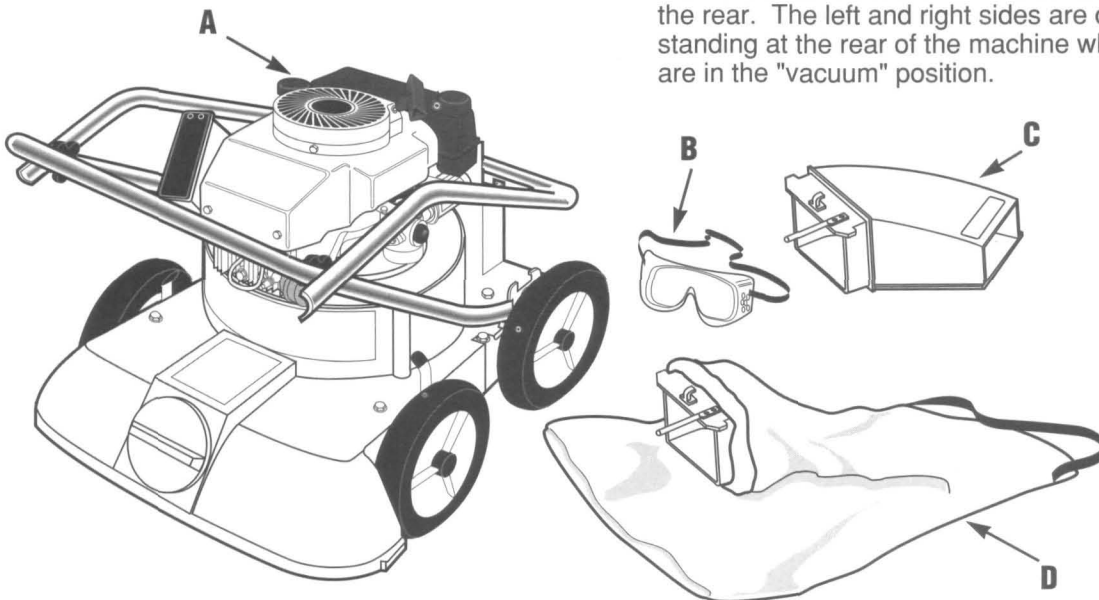

Figure 1: Contents of shipping carton.
1. The following items are contained in the shipping carton and shown in Figure 1:
- (A) Chipper/Vac
- (B) Safety Goggles
- (C) Blower Deflector
- (D) Collection Bag